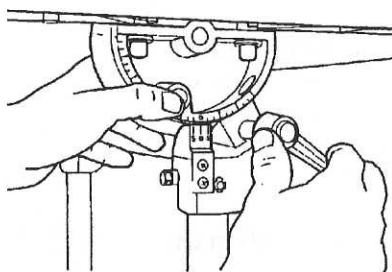

Fig. B-66
29. Loosen the tilt lock, move the worktable, then depress the 0° stop pin until the stop bolt contacts it. Tighten the tilt lock, and re-check the setting by repeating Steps 26 through 28. See Fig. B-66. (It is very important to re-check the setting!)